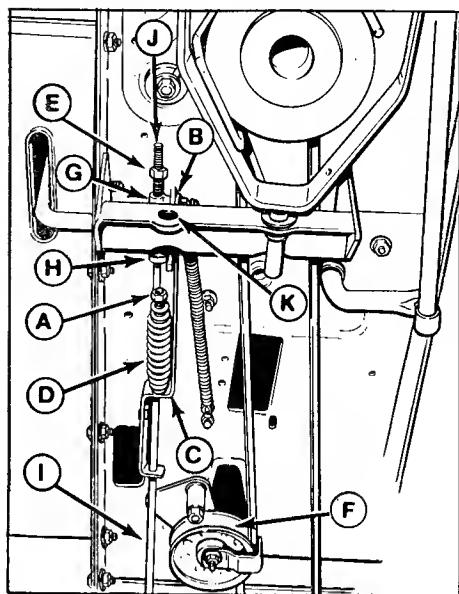

Figure 32. Brake-Clutch Adjustment
- Place the transmission in gear and release the parking brake. Move the brake rod (I, figure 32) back and forth to be sure there is no tension on the brake pads.
The clutch-brake pedal must be in up position. With one hand, push rod guide (C, figure 32) as far forward as slot (B) will allow while pulling rod (I) back with other hand. With rod guide in this position, tighten or loosen nut (A) until 1/4 inch of clearance is obtained between nut and end of spring (D).
- With the pedal up, push the idler pulley (F, figure 32) firmly against the belt. With the pulley in this position, the gap between nut (E) and the rod guide (G) should be 7/8 to 1 inch (22 to 25 mm). If not, tighten nut (E) to decrease gap or loosen nut to increase gap. Recheck measurement.
- Depress and lock the clutch-brake pedal. Loosen the setscrew in the set collar (H). Move the collar against the spring which is located between collar (H) and rod guide (G). Be sure spring is seated as far as possible over rod guide (G). Push the collar